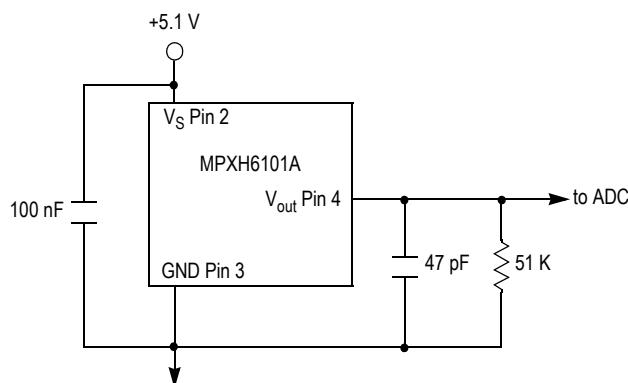

Figure 3. Recommended Power Supply Decoupling and Output Filtering
**Table 2. Operating Characteristics** ( $V_S = 5.1$  Vdc,  $T_A = 25^\circ\text{C}$  unless otherwise noted,  $P1 > P2$ . Decoupling circuit shown in Figure 3 required to meet electrical specifications.)
Figure 3 shows the recommended decoupling circuit for interfacing the output of the integrated sensor to the A/D input of a microprocessor or microcontroller. Proper decoupling of the power supply is recommended.